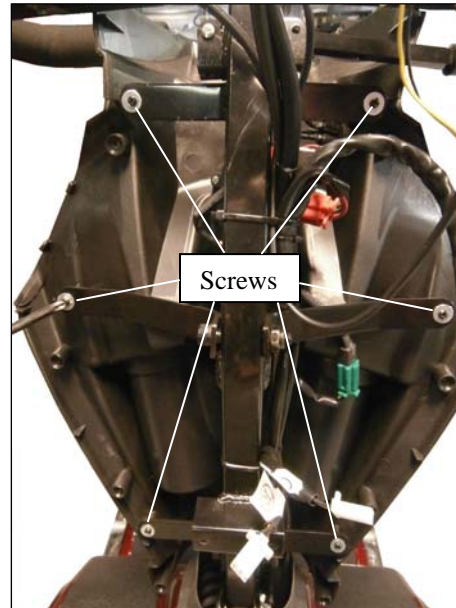

Figure 8. Inside Tiller (front section)
- 2) Remove the (6) Phillips screws at the backside of the front tiller cover to access the switches. See figure 8.
- 4) Install the (6) Phillips screws removed in step 2 to secure the front tiller cover.